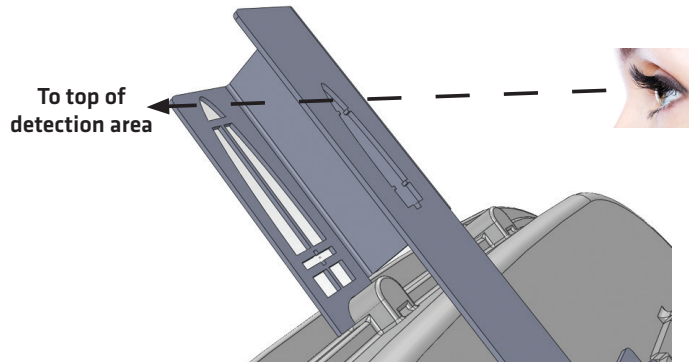

Figure 1.15 – Viewpoint 2
- 5 Use viewpoint 2 to verify your alignment. Do this by moving your head down so that you can see the top crossbar and the archway (see Figure 1.15).